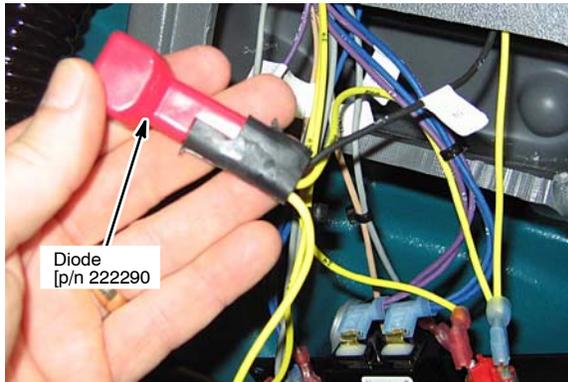

Fig. 25
- Connect diode [p/n 222290] to the *ec-H2O* harness as shown (Figure 25).